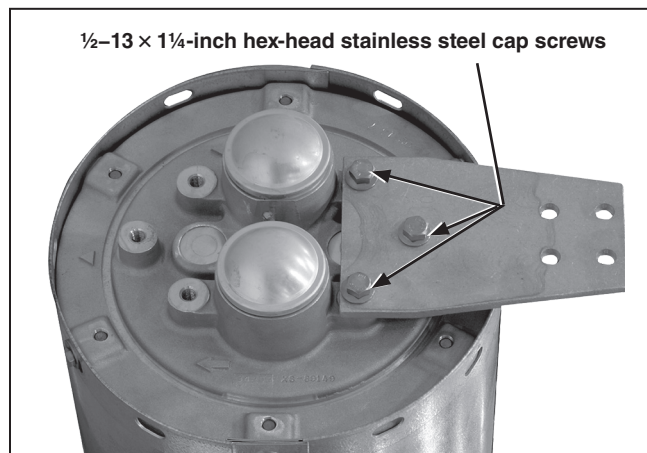

Figure 20. Attaching the terminal pad.
- (c) Attach the upper terminal pad using three  $\frac{1}{2}$ -13  $\times$   $1\frac{1}{4}$ -inch hex-head stainless steel cap screws and Belleville washers. See Figure 20.